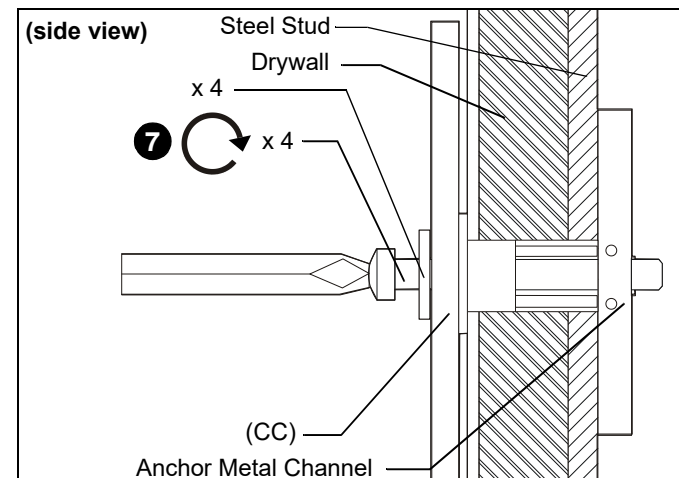

Figure 15
6. Place wall bracket over anchor and align mounting hole in wall bracket with hole in anchor. (See Figure 15)
7. Insert minimum Grade 5 minimum 2-1/2" long screw (not included) through Grade 2 or better 1/4" washer (not included), corresponding mounting hole on wall bracket and into Snap-Toggle (not included) and tighten until flush against mount. DO NOT over tighten! (See Figure 15)